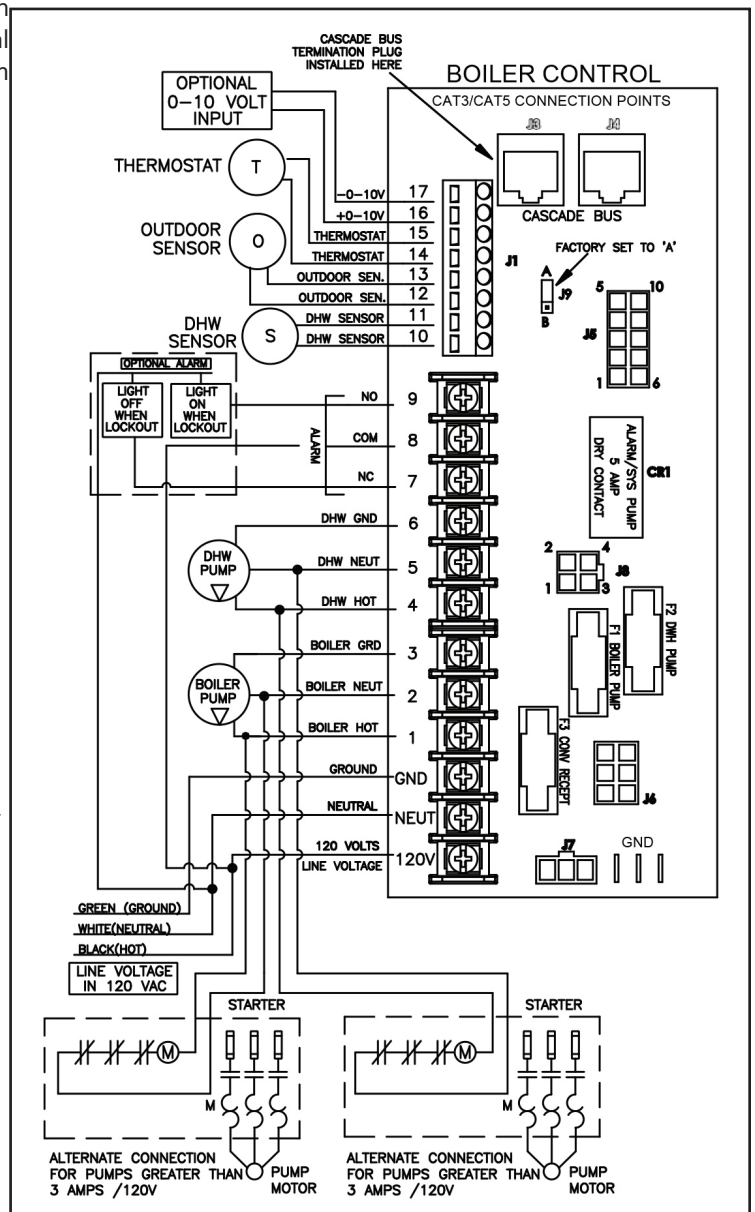

Figure 22 - Control Wiring
NOTE: A termination plug is included in the CAT 3 / CAT 5 Bus Connection Point, labeled J3 in Figure 22. DO NOT REMOVE THIS
1. Connect the incoming power wiring to the line voltage terminal strip in the electrical junction box at terminals 120V, Neutral, Ground (shown in Figure 22).
3. Connect the boiler pump as shown in Figure 22 to the terminals marked 1 – (HOT), 2 – (NEUT), and 3 – (GND). The connections shown are suitable for a maximum continuous pump draw of 3 amps at 120 volts. If the pump requires more current or voltage than the 120 volts supplied, an external motor starter or contactor will be required.
The control includes a dry contact alarm output. This is an SPDT circuit, rated at 5 amps at 120 volts. This contact can be used to activate an alarm light or bell or notify a building management system if the boiler goes into a lockout condition. The circuit between the ALARM COM and NC terminals is closed during normal operation and the circuit between ALARM COM and NO is open during normal operation. The connections depicted in Figure 22 show two 120 volt lights connected to the alarm terminals. One light will be on when the boiler is in normal mode and the other light will be on when the boiler is in lockout mode.
1. Connect the room thermostat to the terminals marked THERMOSTAT in the electrical junction box (see Figures 22 and 25). Alternately, any dry contact closure across these terminals will cause the boiler to run. Take caution to ensure neither of the terminals becomes connected to ground.
2. Connect the indirect sensor (7250P-325) to the terminals marked DHW SENSOR (shown in Figures 22 and 25) in the electrical junction box.